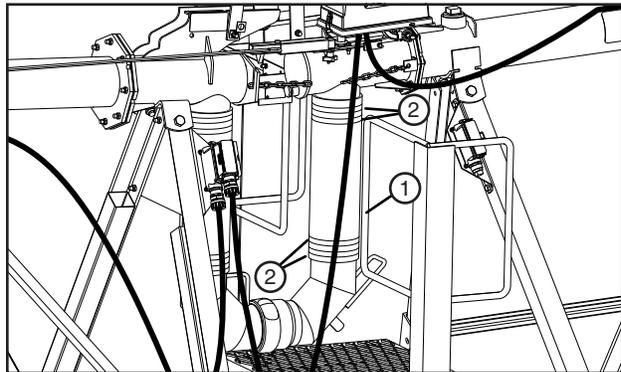

Figure 34-1 1. Hose
If the hoses are sufficiently weather-cracked, checked, or leaking, you need to replace. Follow the steps below to replace the 4-1/2 in hoses. See figure 34-1.
1. Loosen the hose clamps. See figure 34-1.
5. Tighten the hose clamps. See figure 34-1.